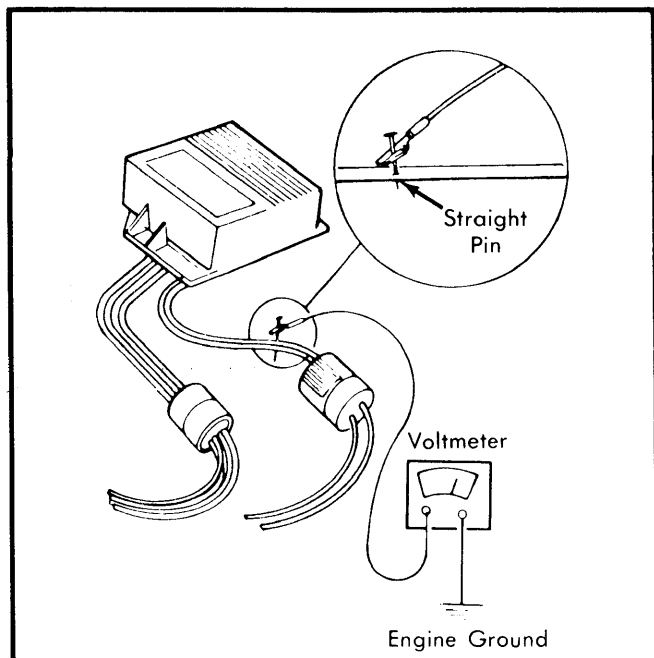
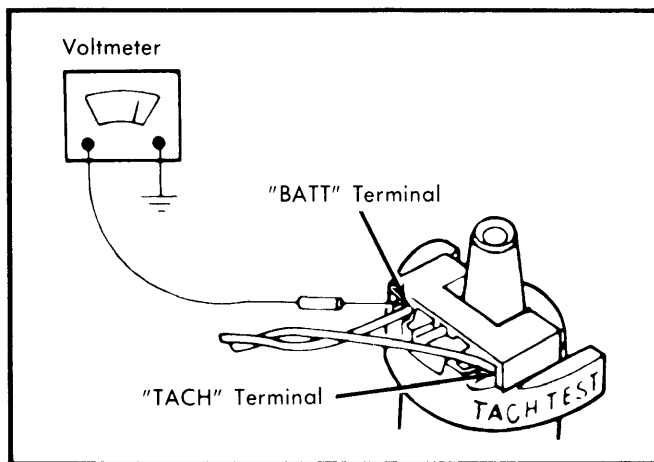

Fig. 7 Checking Control Module Feed Wires (Red or White Wire Circuits)
Fig. 8 Checking Battery Voltage at Coil
1) Turn ignition switch to "RUN" position. Using a small straight pin, puncture Red wire between control module and connector. See Fig. 7. Attach positive voltmeter lead to straight pin and negative lead to ground. Do not let pin touch ground.
2) Hold ignition switch in "START" position. Connect voltmeter positive lead to coil positive ("BATT") terminal and negative lead to ground. See Fig. 8. Record reading. Then puncture White wire with a straight pin between control module and connector. See Fig. 7. Attach positive voltmeter lead to pin and negative lead to ground. Do not let pin touch ground.